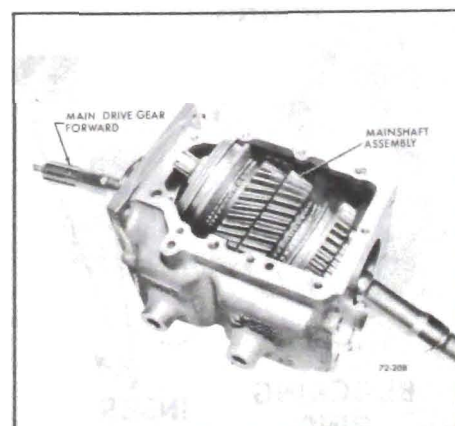

Figure 72-222 - Installing Mainshaft
6. Position mainshaft assembly in case. See Figure 72-222.